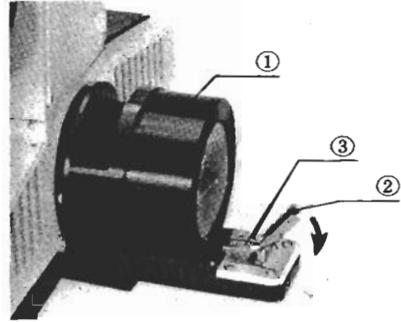

Fig. 1
② Mounting the halogen bulb
- 1) Releasing the bulb clamping levers ② of the collector lens ① in the direction of the arrow, insert two contact pins of the halogen bulb into the socket ③. (Fig. 1) (Recommended to use a glove or gauze to handle the halogen bulb.)